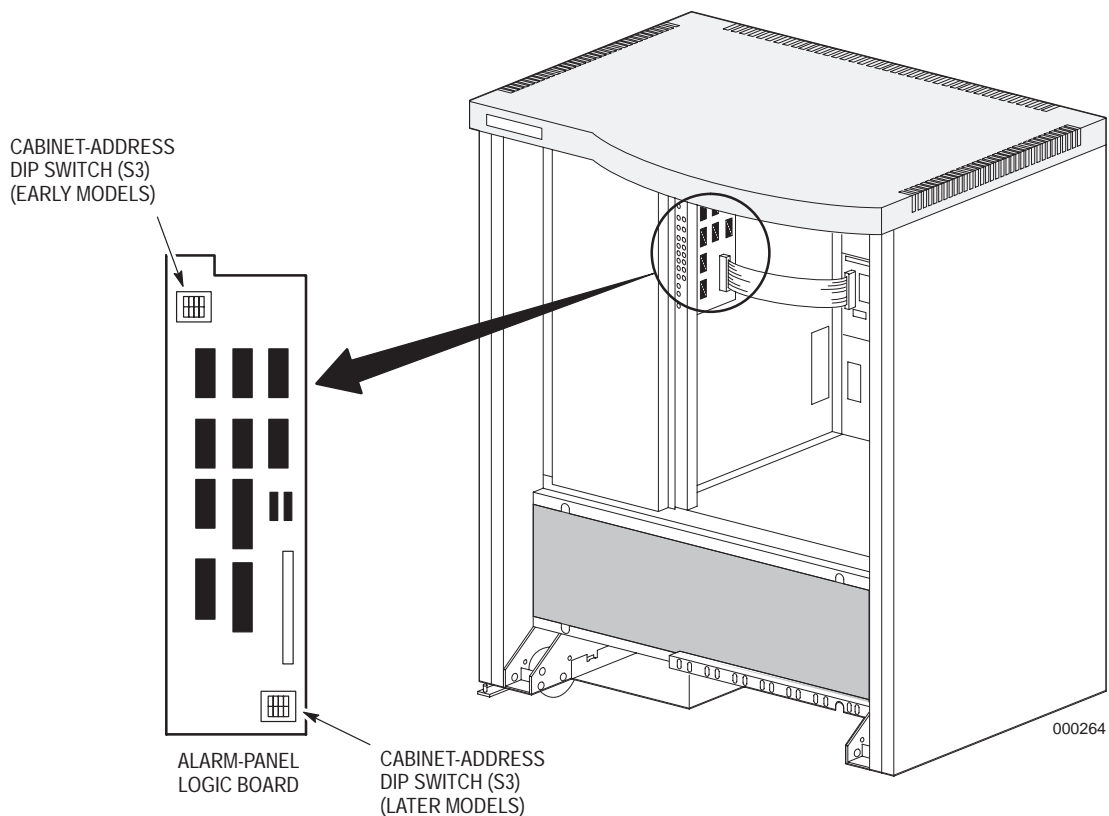

Figure 12-12. Location of Alarm-Panel Logic Board and Switch S3 (Front View).
- a. Remove the CCF and FLT cards from the logic bay. Remove blank stiffeners, as necessary, to access the dip switch on the alarm-panel logic board, shown in Figure 12-12.
- b. Configure the alarm board in the expansion cabinet by setting the cabinet-address dip switch (S3), shown in Figure 12-12, to the appropriate setting for the expansion cabinet, as shown in Table 12-1.